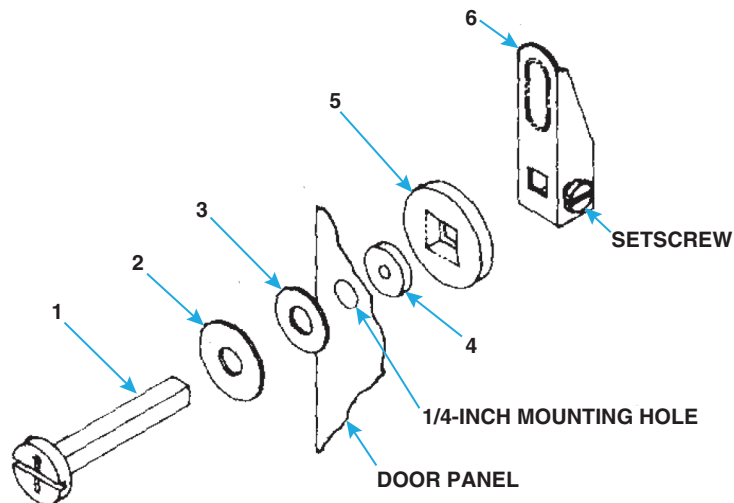

Figure 1. Door Latch Assembly
Install the door latch replacement kit as follows. Item numbers in parentheses refer to **Figure 1**.
3. Assemble door latch shaft (1), trim washer (2), and outer neoprene washer (3) and insert assembly into 1/4-inch mounting hole through outer side of door panel as shown in **Figure 1**.
4. Push smaller diameter inner neoprene washer (4) onto door latch shaft (1) and against inside of door panel.
**NOTE: If a push-on-retainer tool is available, use it to install the retainer (5) onto the door latch shaft. If a push-on retainer tool is not available, place the retainer over the end of a 5/8-inch deep socket. Using the socket to equalize the pressure, firmly push the metal retainer onto the shaft. Whichever method is used, the flanges on the metal retainer will bend to attach the door latch shaft to the door panel. The latch must be firmly attached to the door panel.**
5. Install retainer (5) onto door latch shaft (1) using push-on retainer tool or 5/8-inch deep socket. Ensure that flanges on retainer bend to firmly secure door latch shaft to door panel.